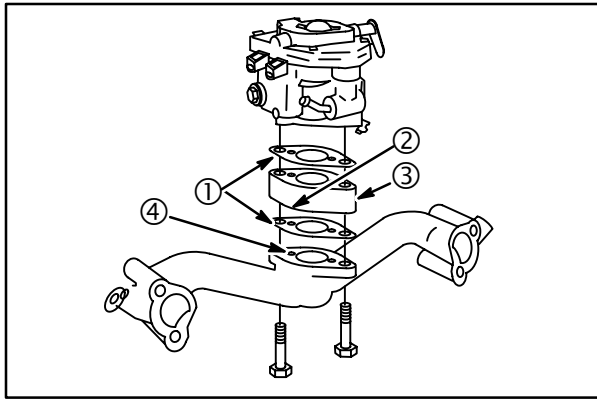

Fig. 29
- Assemble gaskets (1), spacer (3) and carburetor to intake manifold, **Fig. 29**.